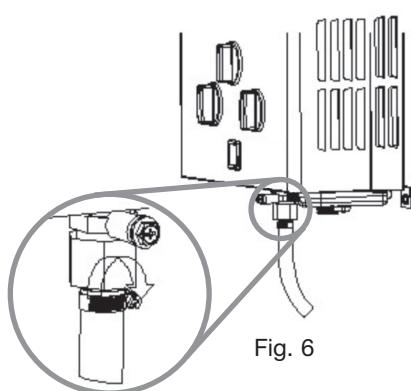

Fig. 6
1. For L.P. gas users: ensure the gas valve is fully closed, connect gas piping to pressure regulator through a 9.50 mm pipe. Connect piping as described in Fig. 6.
2. For Natural gas users: close main gas valve and connect as described in Fig. 6.
First, remove the drain plug. Connect as shown in Fig. 6. If you install a control valve or faucet, or a shower with a faucet at the hot water outlet, make sure their material and piping material is resistant to high temperatures.